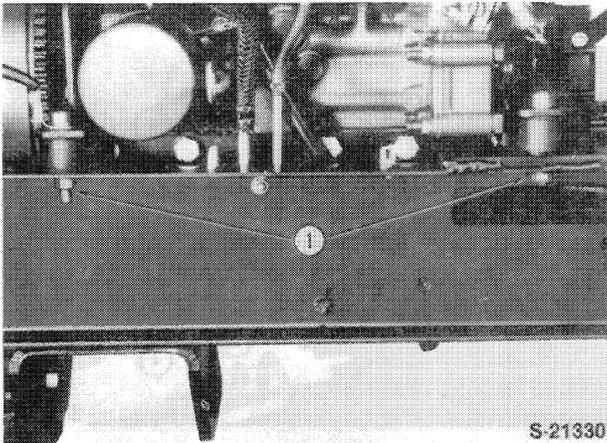

Figure 21
29. Remove the four engine mounting bolt nuts (1), Figure 21.